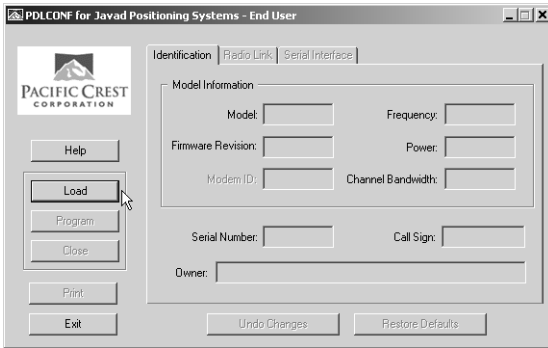

Figure 2-29. Click Load
8. Click **Load** to connect to the radio (Figure 2-29).